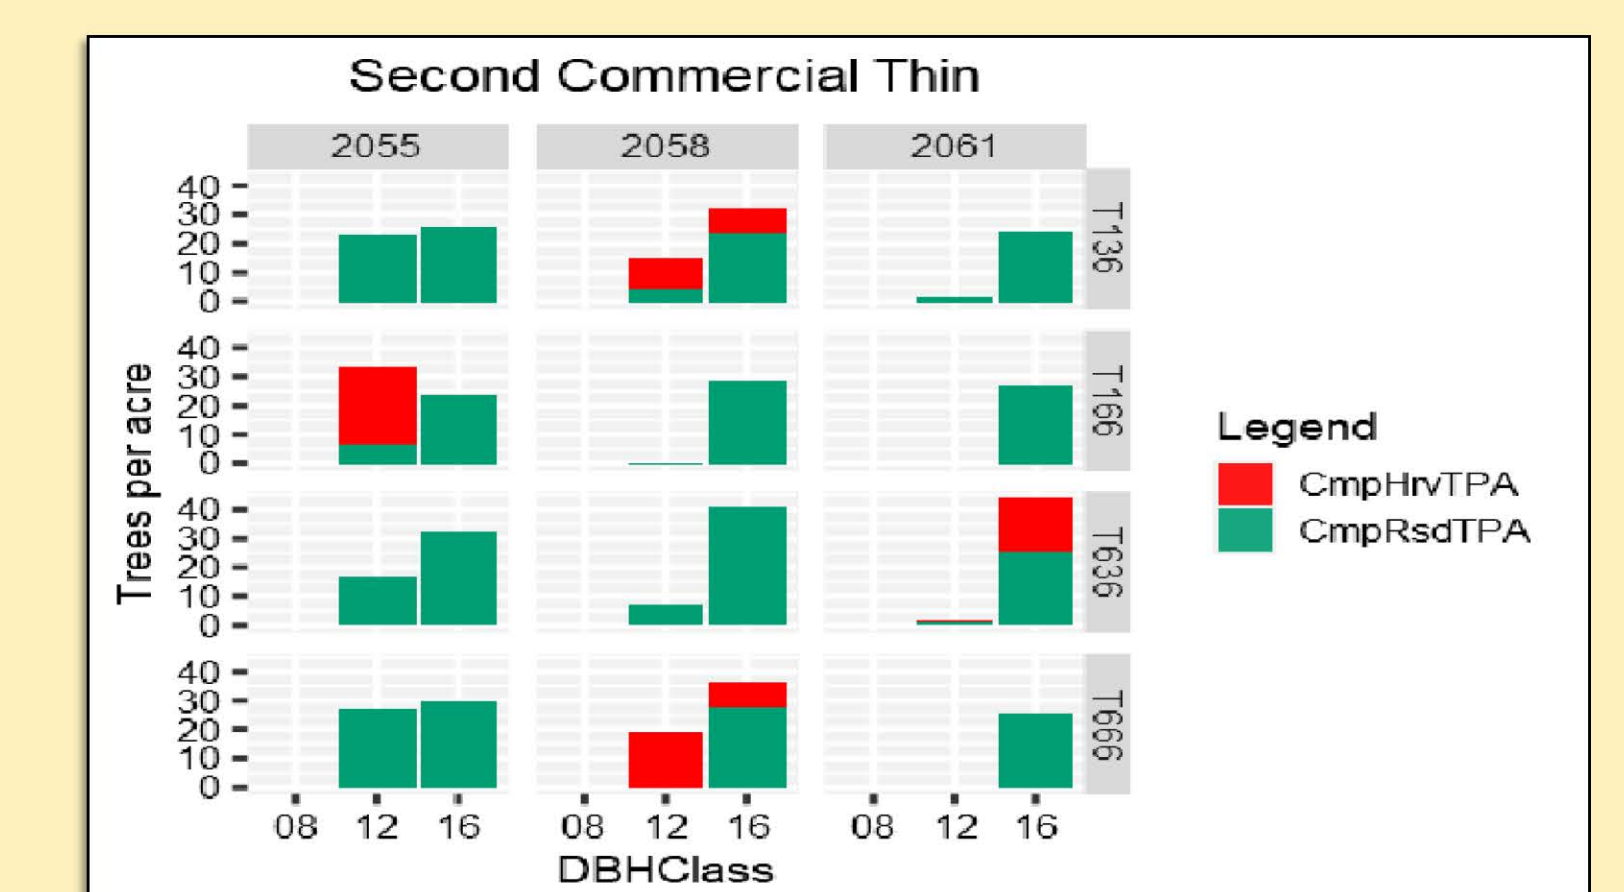

Fig 5 : DBH Class of trees harvested and residuals at 2nd CT
- 2nd Commercial Thin : Performed when non crop trees are 14" in diameter (sawlog grade No 1 and 2) on average leaving only crop trees for future harvest (Fig 5)